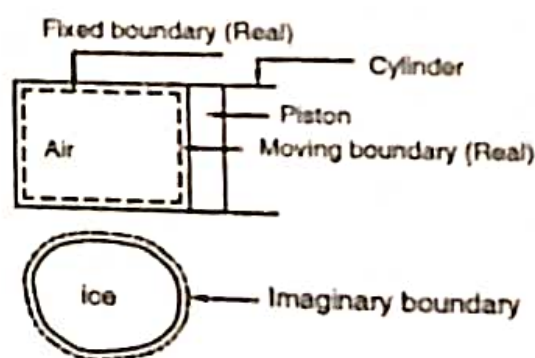

Fig. 1.2 Types of boundary
A system and its surroundings together form a 'universe'. Systems can be classified in three categories (1) closed system (2) open system (3) isolated system. Closed system is one in which there is no mass transfer across the boundary of the system thus it is a system of fixed mass. Energy interaction can be there across the system boundary. Example of closed system is air trapped in piston-cylinder arrangement as shown in Fig. 1.2. Open system is one in which both mass and energy cross the boundary of the system. Most of the engineering applications are open system. Examples of open system are gas turbine, air compressor, pump, nozzle etc. In gas turbine, gas at high pressure, high temperature enters in to the turbine and leaves at lower pressure, lower temperature. There are energy transfers across the system boundary.